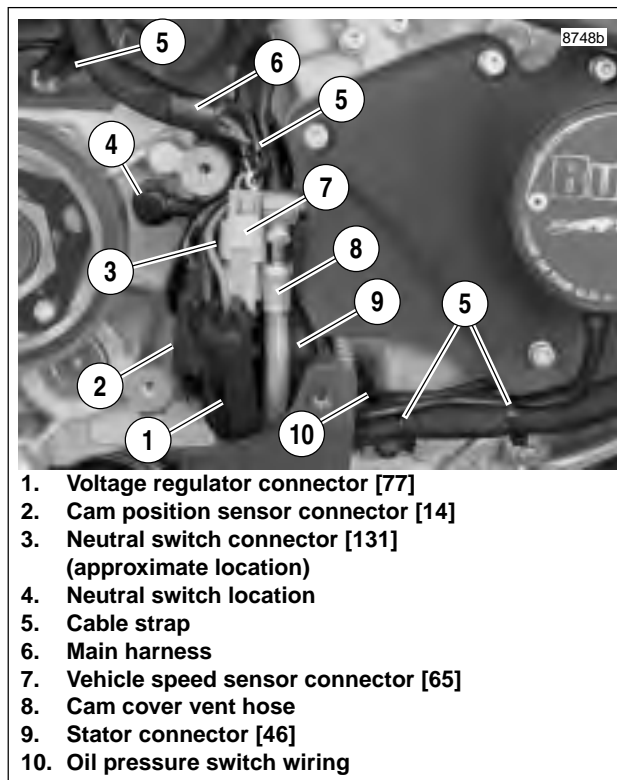

Figure 7-85. Sprocket Cover Wiring
2. See Figure 7-85. Disconnect appropriate connector(s).
See Figure 7-85. All wiring under sprocket cover that gets routed from sprocket area towards front of vehicle is routed behind cam cover breather hose (8).
1. Route oil pressure switch wiring (10) from main harness (6), behind cam cover vent hose (8) to oil pressure switch located on front of engine.